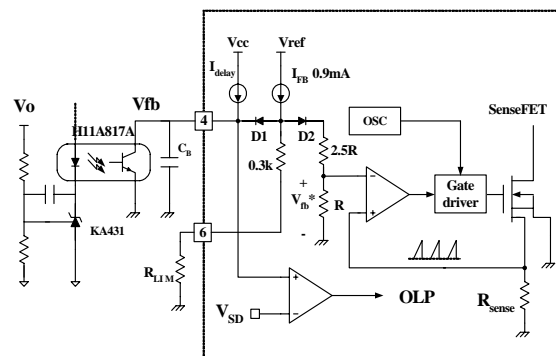

Figure 18. Pulse Width Modulation (PWM) Circuit
**2. Feedback Control:** The FSCM0565R employs current mode control, as shown in Figure 18. An opto-coupler (such as the H11A817A) and a shunt regulator (such as the KA431) are typically used to implement the feedback network. Comparing the feedback voltage with the voltage across the Rsense resistor makes it possible to control the switching duty cycle. When the reference pin voltage of the KA431 exceeds the internal reference voltage of 2.5V, the H11A817A LED current increases, thus pulling down the feedback voltage and reducing the duty cycle. This event typically happens when the input voltage is increased or the output load is decreased.
**2.1 Pulse-by-pulse Current Limit:** Because current mode control is employed, the peak current through the SenseFET is determined by the inverting input of the PWM comparator ( $V_{fb}^*$ ) as shown in Figure 18. When the current through the opto transistor is zero and the current limit pin (#5) is left floating, the feedback current source ( $I_{FB}$ ) of 0.9mA flows only through the internal resistor ( $R+2.5R=2.8k$ ). In this case, the cathode voltage of diode D2 and the peak drain current have maximum values of 2.5V and 2.5A, respectively. The pulse-by-pulse current limit can be adjusted using a resistor to GND on the current limit pin (#5). The current limit level using an external resistor ( $R_{LIM}$ ) is given by